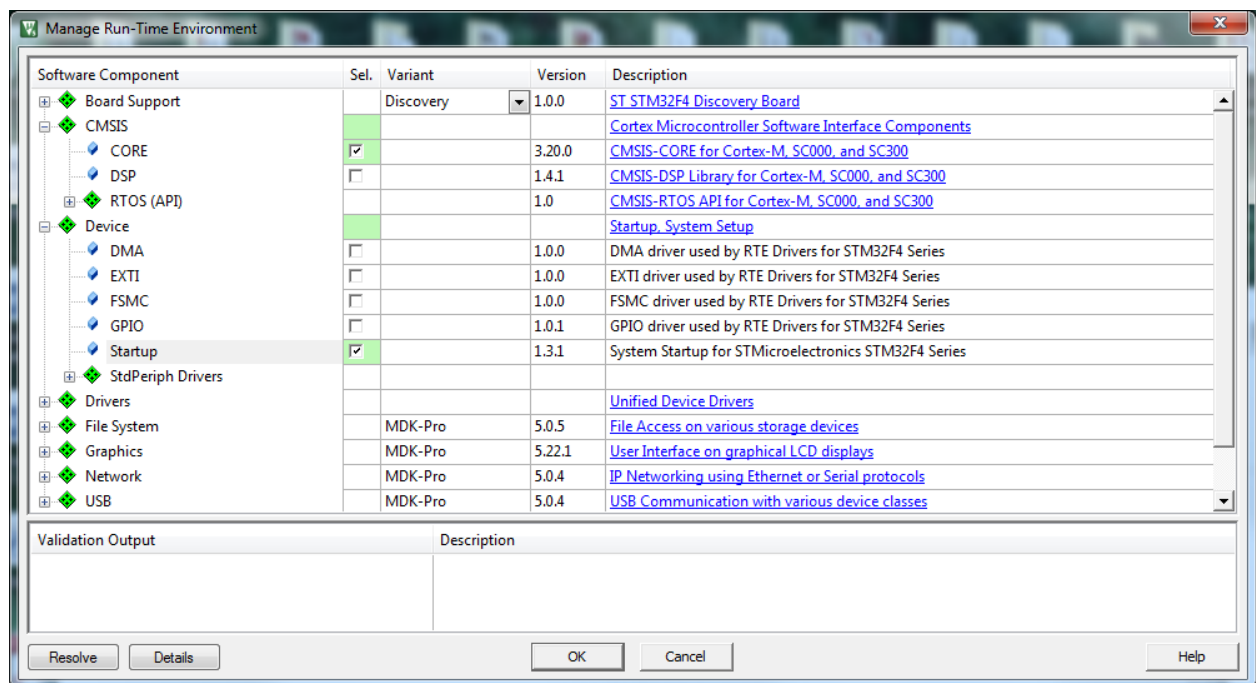

Figure 3. Include the CMSIS CORE and Startup files in the project.
3. In the *Manage Run-Time Environment* window (Figure 3), you can add microcontroller header and startup files, device drivers, and other software pack components to the project by checking the corresponding boxes. (These can also be added later, if desired.)